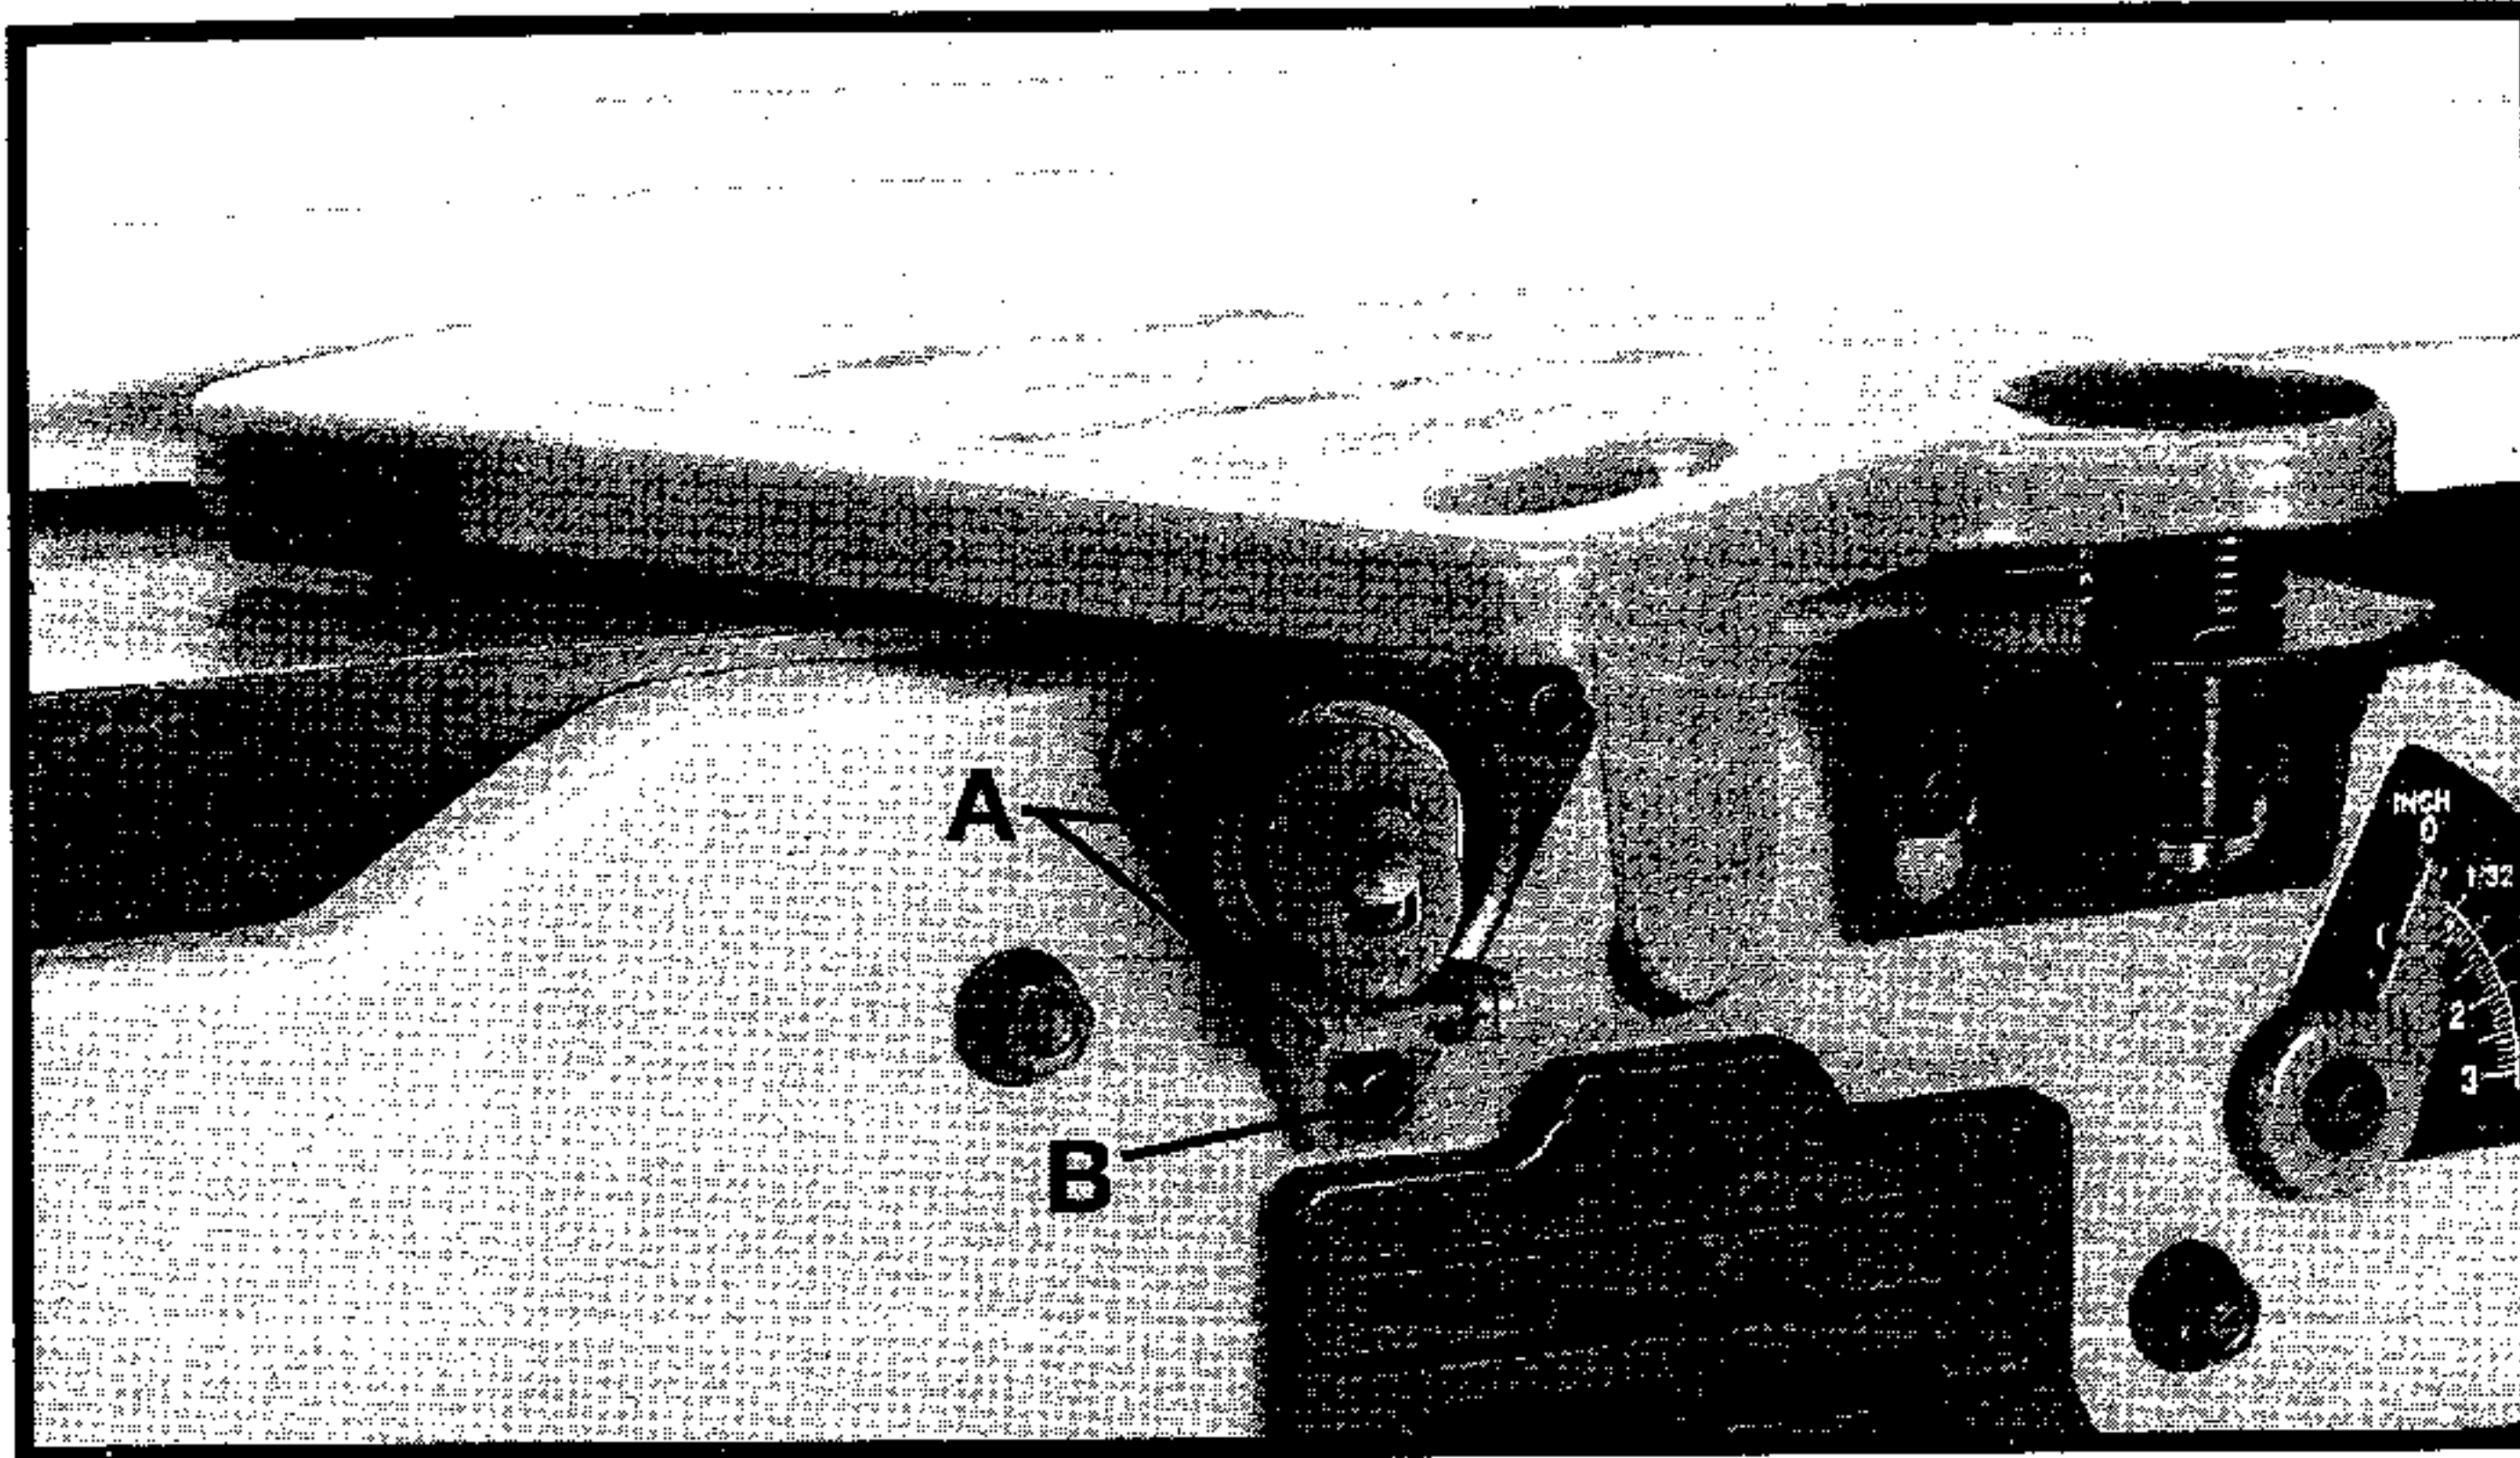
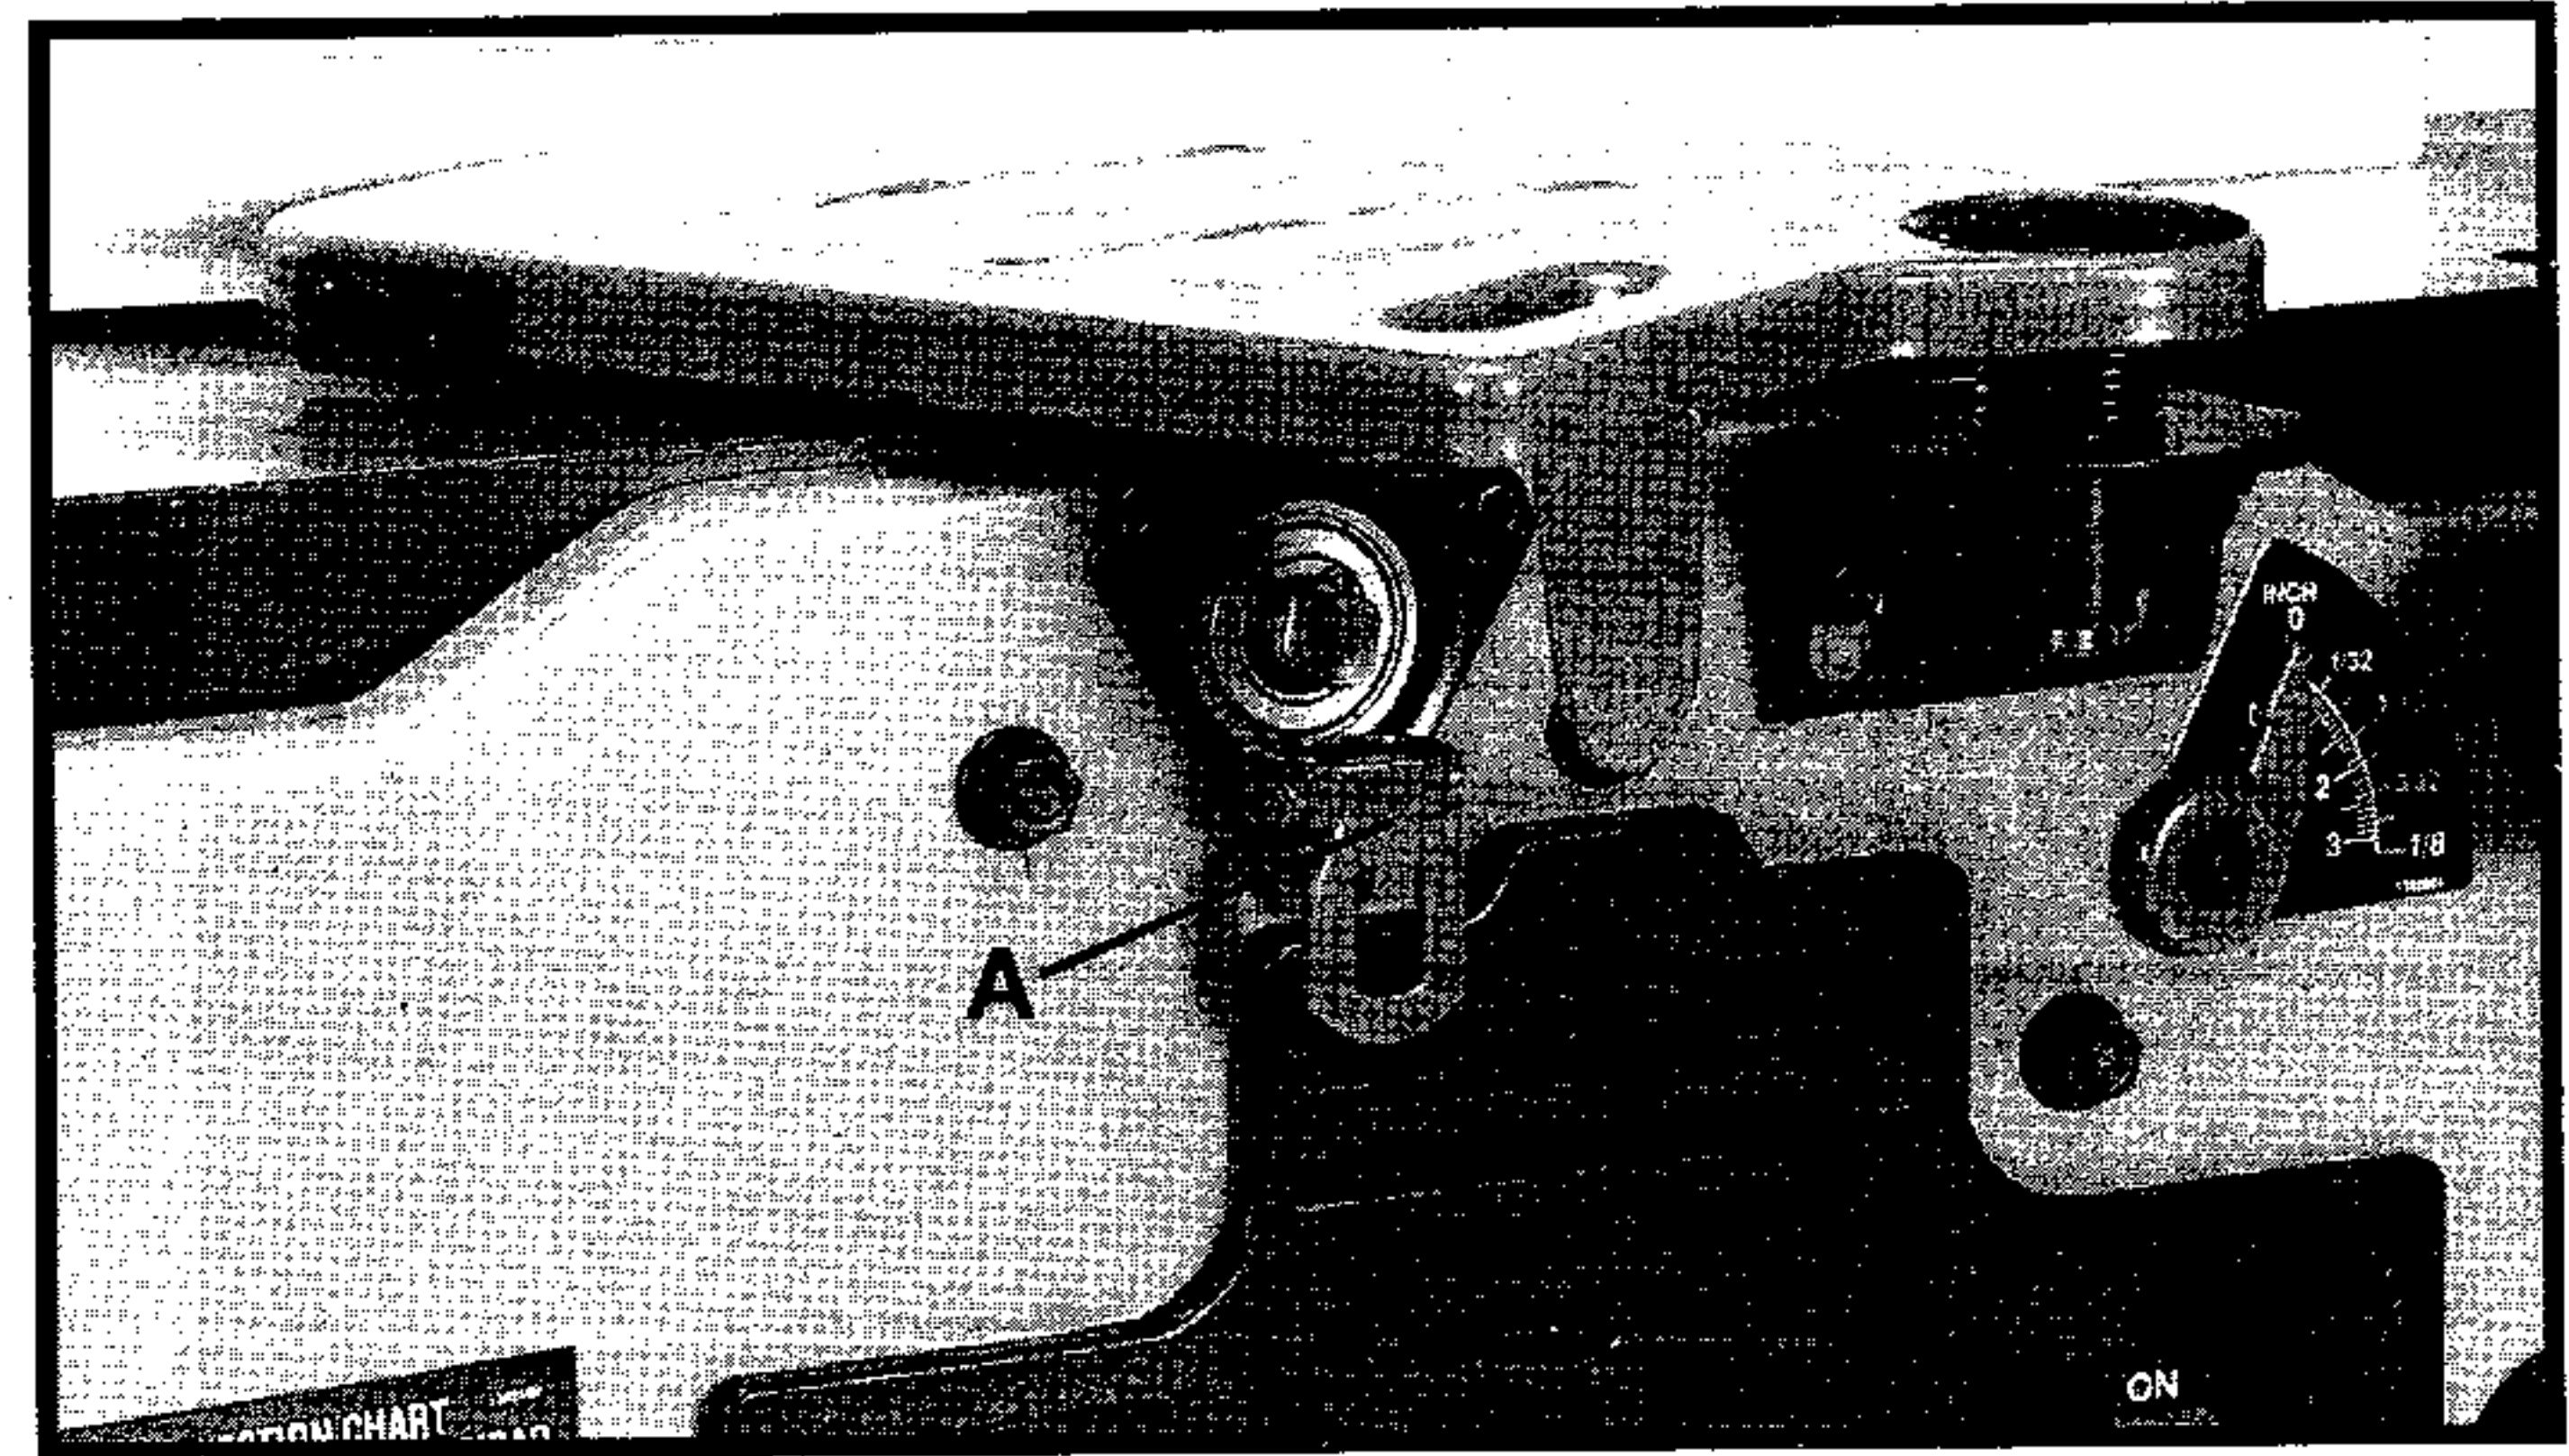

Fig. 15
Fig. 16
Assemble cutterhead lock (A) Fig. 15 to the front side of the jointer base, using the M6x1x12mm button head screw (B).
NOTE: THE CUTTERHEAD LOCK (A) IS TO BE ENGAGED WITH THE CUTTERHEAD SHAFT (FIG. 15) ONLY WHEN SETTING KNIVES. ALL OTHER TIMES, THE CUTTERHEAD LOCK (A) SHOULD BE DISENGAGED FROM THE CUTTERHEAD (FIG. 16).